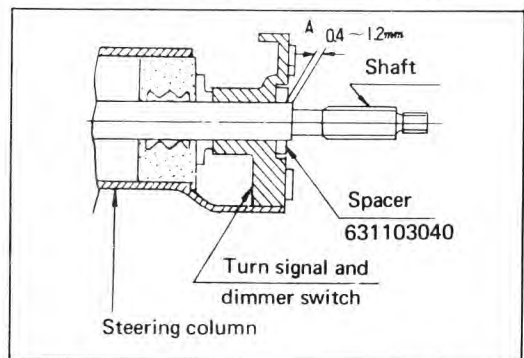

Fig. 6-13 Adjustment (g)
- (g) Adjust the spacer to the above assembly condition so that the dimensions (A) of Fig. 6-13 are 0.4 ~ 1.2 mm (0.02 ~ 0.05 in.)